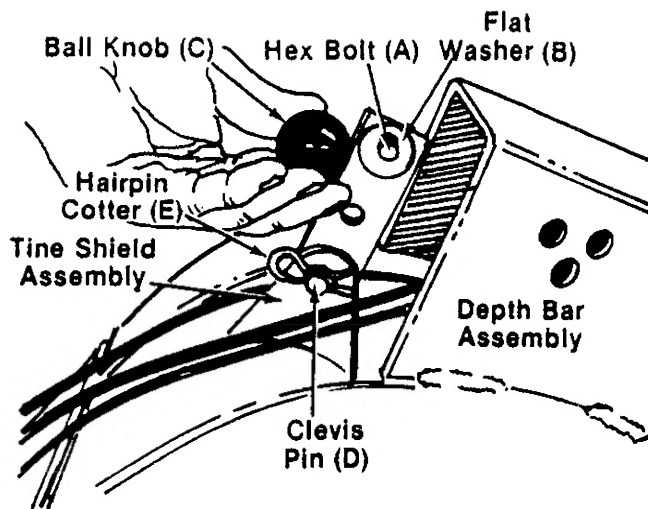

FIGURE 4.
2. Insert clevis pin (D) through the tine shield and depth bar assemblies. Secure with hairpin cotter (E). See figure 4.
3. Insert hex bolt (A) into the upper hole of the depth bar assembly. Place flat washer (B) onto the hex bolt and thread ball knob (C) onto the hex bolt. See figure 4. Tighten securely.